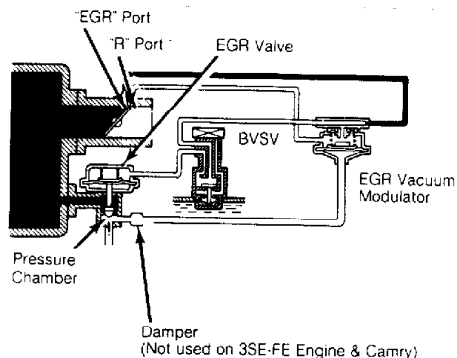

Fig. 1: Camry & Celica (2WD) EGR System
- 3) The BVSV, TVSV, VSV and EGR modulator can be checked with engine coolant below minimum temperature and specified engine RPM in accordance with application. See EGR SPECIFICATIONS table. Different valves are used depending on model. See Figs. 1 through 16.
- 7) Disconnect hose from the "R" port of EGR vacuum modulator on all models except the Celica 4WD, Tercel Wagon, Pickup (turbo) and Supra (turbo) models. See Figs. 1 through 16.